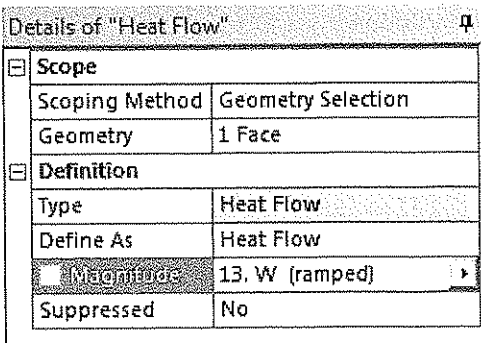

Figure 11-57 The **Details of “Heat Flow”** window displayed with all the parameters specified
11. In the **Details of “Heat Flow”** window, enter **13** in the **Magnitude** edit box, refer to Figure 11-57.